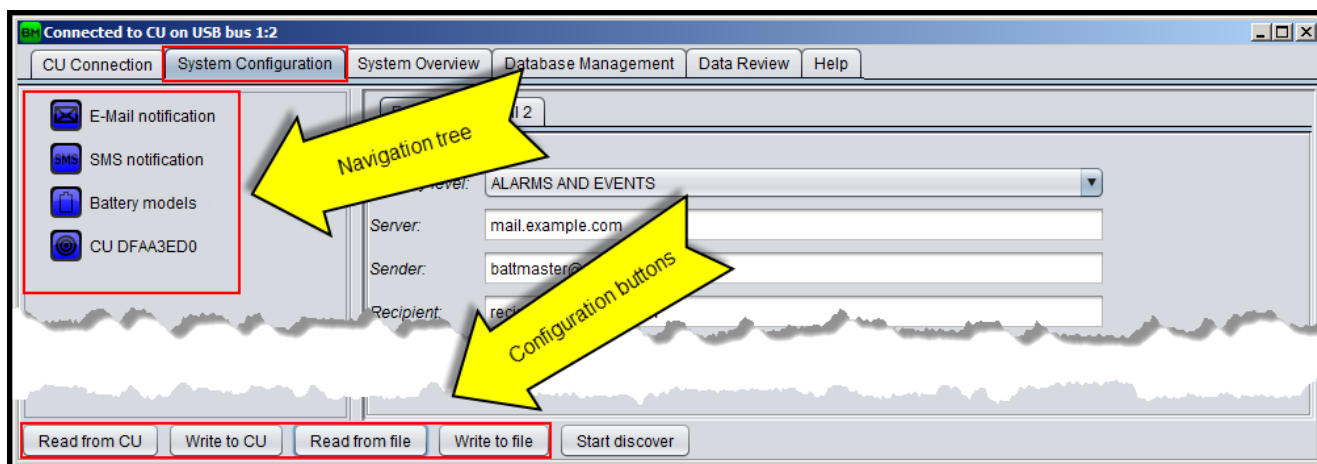

Figure 28: System setup
- Open the “System configuration” tab as shown on Figure 28.